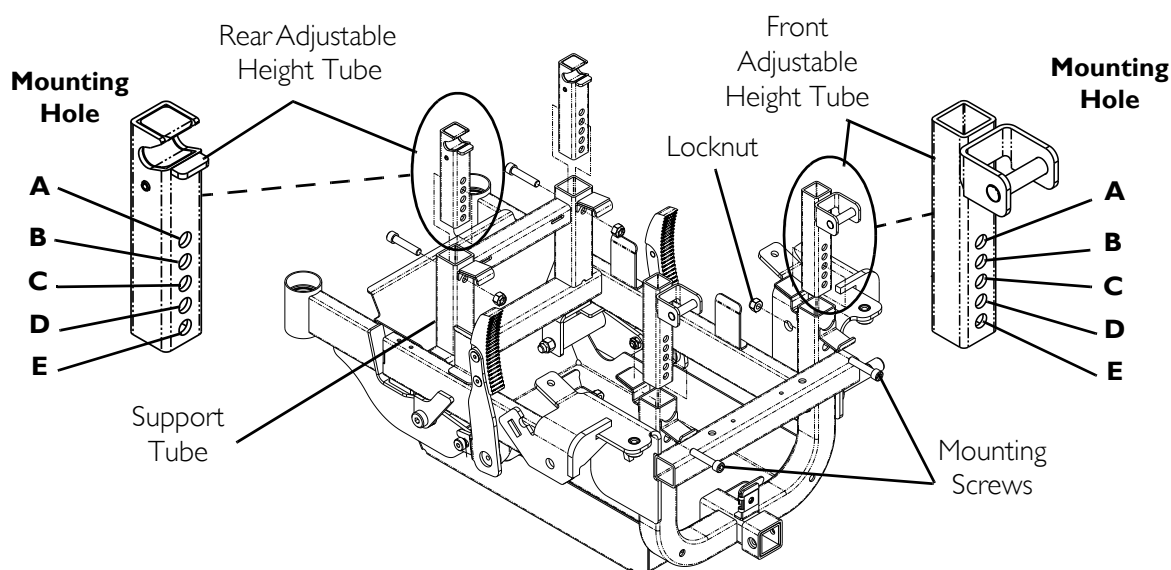

FIGURE 7.5 Adjusting the Seat Height
NOTE: For this procedure, refer to FIGURE 7.5 on page 52.
4. Reinstall mounting screw and locknut (FIGURE 7.5). Securely tighten.